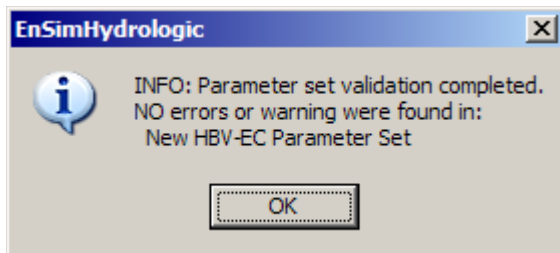

Figure 5.22: This message indicates that no errors were found
3. Select **Run→Check Parameters** from the menu bar. A dialog box will appear, listing any errors remaining in the parameter set. If there are no errors found, the the message box shown in Figure 5.22 will appear.